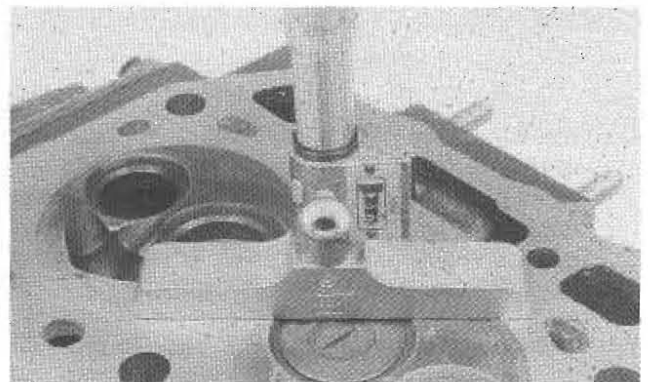

Fig. 3-30 Checking Valve Depth
1. To check valve seat depth, reinstall the valves in their respective seats and check the depth (Fig. 3-30). Valve seat depth should be .0374 to .0492 in. (0.95 to 1.25 mm).